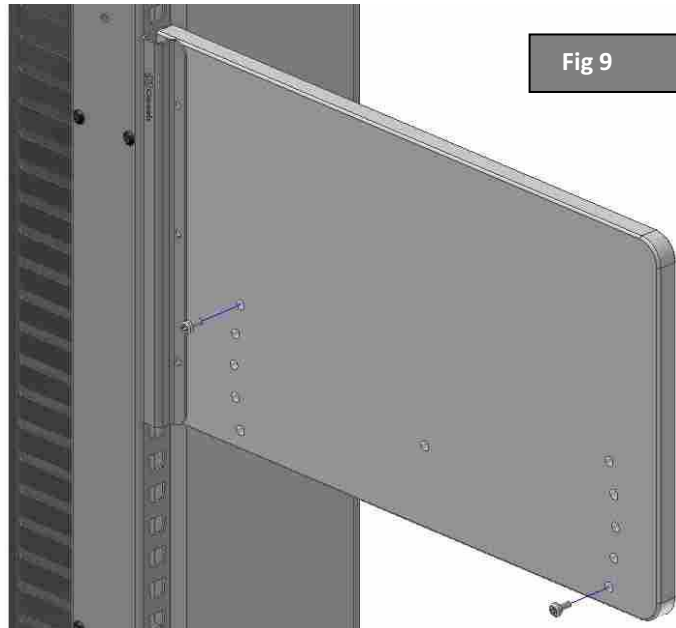

Fig 9
STEP 2b – Insert the 4 **M5x12 DIN785 Phillips screws** of the ends of the **sides** diagonally without fully tightening them (Fig. 9).